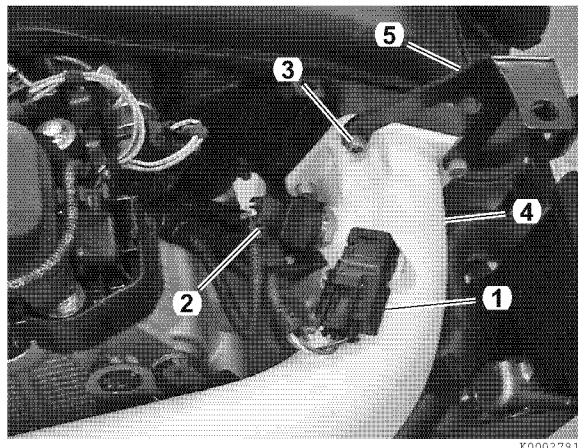

Figure 5-133
8. Ensure seal in charge air pipe is not damaged and is in place. Connect charge air pipe (4, **Figure 5-133**) and bracket (5, **Figure 5-133**). Install four screws (3, **Figure 5-133**) and tighten to 9.5 N·m (84 in.-lb)
9. Connect electrical connectors to charge air pressure sensor (1, **Figure 5-133**) and charge air temperature sensor (2, **Figure 5-133**).